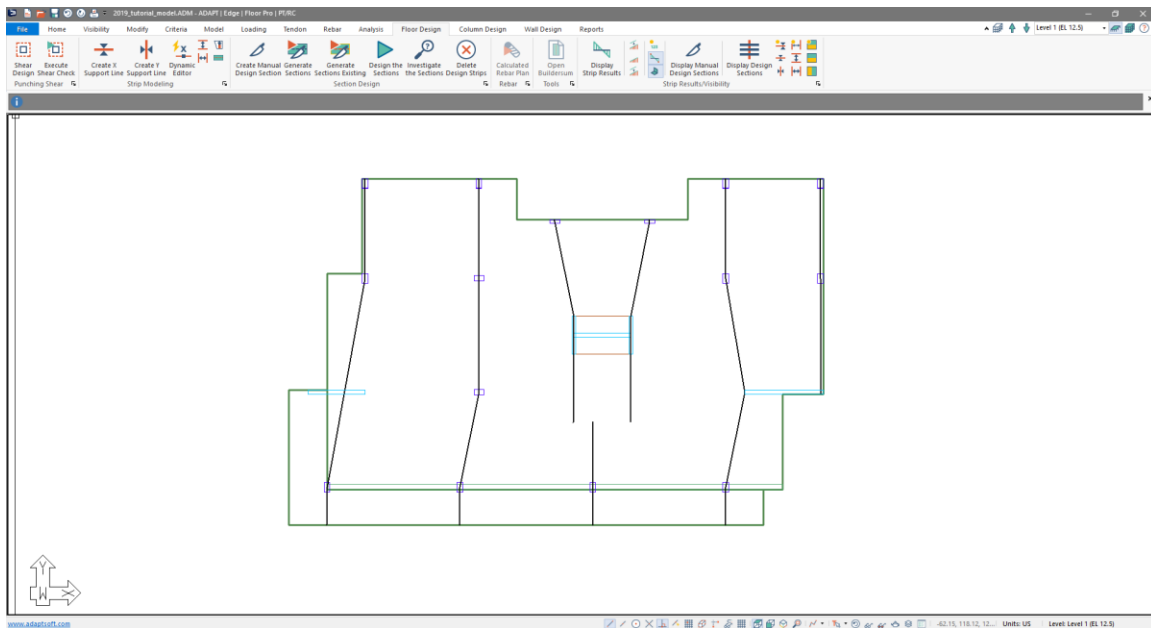

Figure 9-35
- Create another support line along the wall to the right of the wall we just placed a support line over in the same manner as we did the previous support line. When finished the user should have support lines in the model as shown in **FIGURE 9-35**.